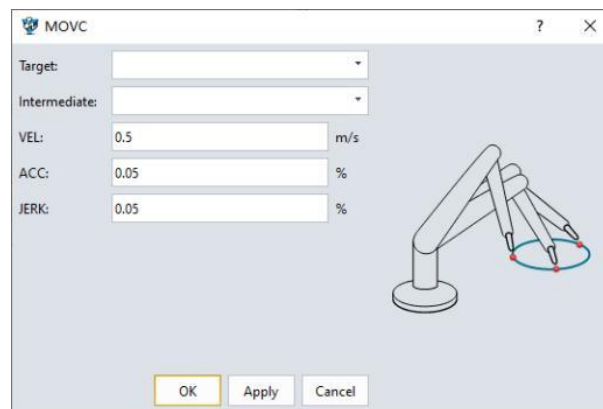

Figure 3-37: MOVC
(5) MOVC:
- **Explanation:** The unit of VEL is m/s; ACC and JERK both use percentage form, and the input range is a positive number. If it is less than or equal to 0, an error will be reported; (Figure 3-37)